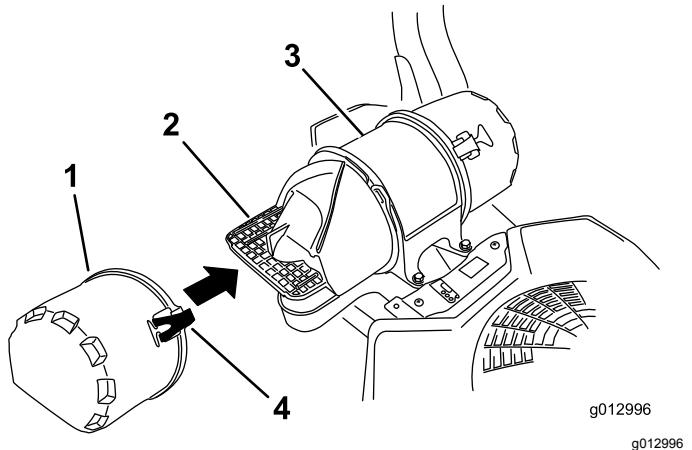

Figure 40
3. Release the latches on the air cleaner and pull the air-inlet cover off the air-cleaner body (Figure 40).
5. Install the air-inlet cover and secure it with the latches (Figure 40).